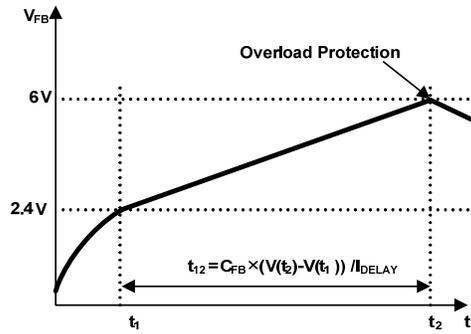

Figure 18. Overload Protection (OLP)
In conjunction with the IPK current limit pin (if used), the current-mode feedback path limits the current in the SENSEFET when the maximum PWM duty cycle is attained. If the output consumes more than this maximum power, the output voltage (VO) decreases below its rating voltage. This reduces the current through the opto-coupler LED, which also reduces the opto-coupler transistor current, thus increasing the feedback voltage (VFB). If VFB exceeds 2.4 V, the feedback input diode is blocked and the 5 μA current source (IDELAY) starts to charge CFB slowly up to VCC. In this condition, VFB increases until it reaches 6 V, when the switching operation is terminated, as shown in Figure 18. The shutdown delay is the time required to charge CFB from 2.4 V to 6 V with 5 μA current source.